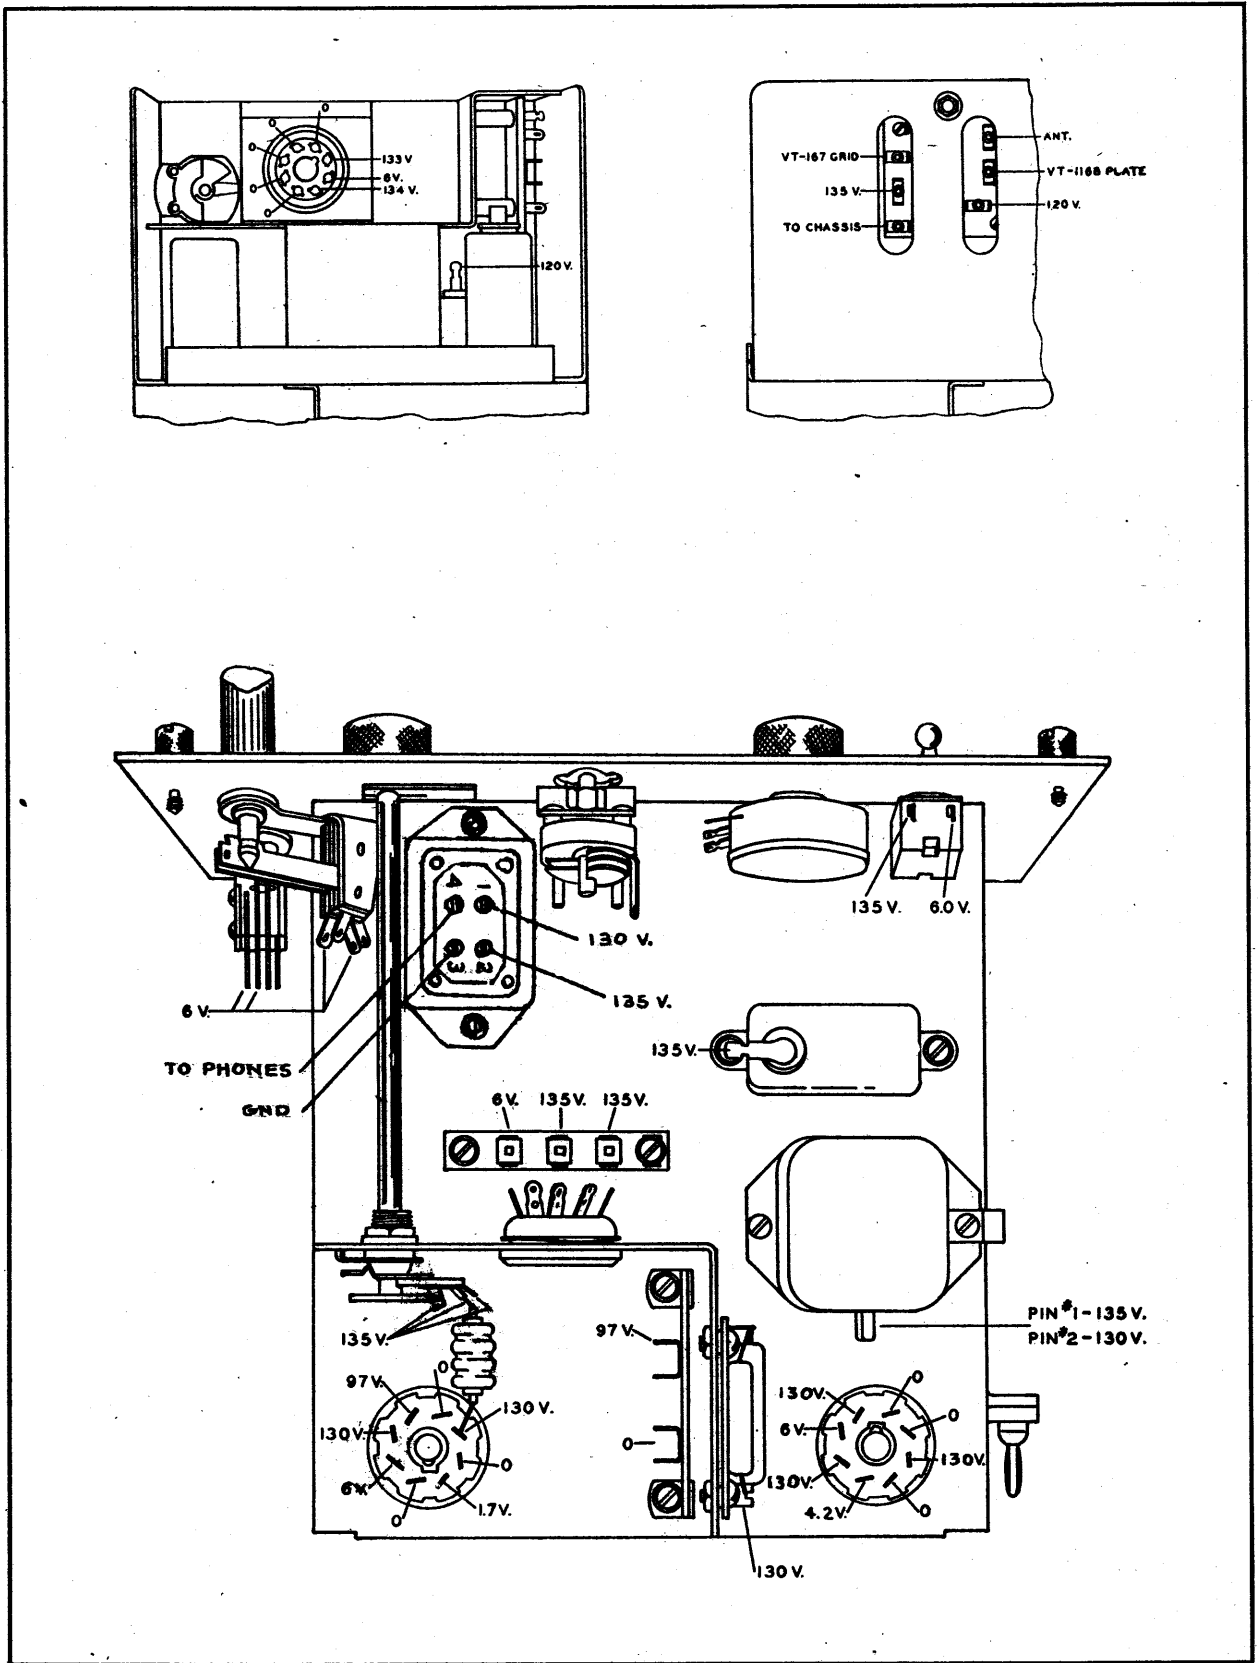

Figure 5-5. Frequency Meter BC-221-AF—Voltage Check Points
1. FREQUENCY METER BC-221-AF.—See figure 5-5.